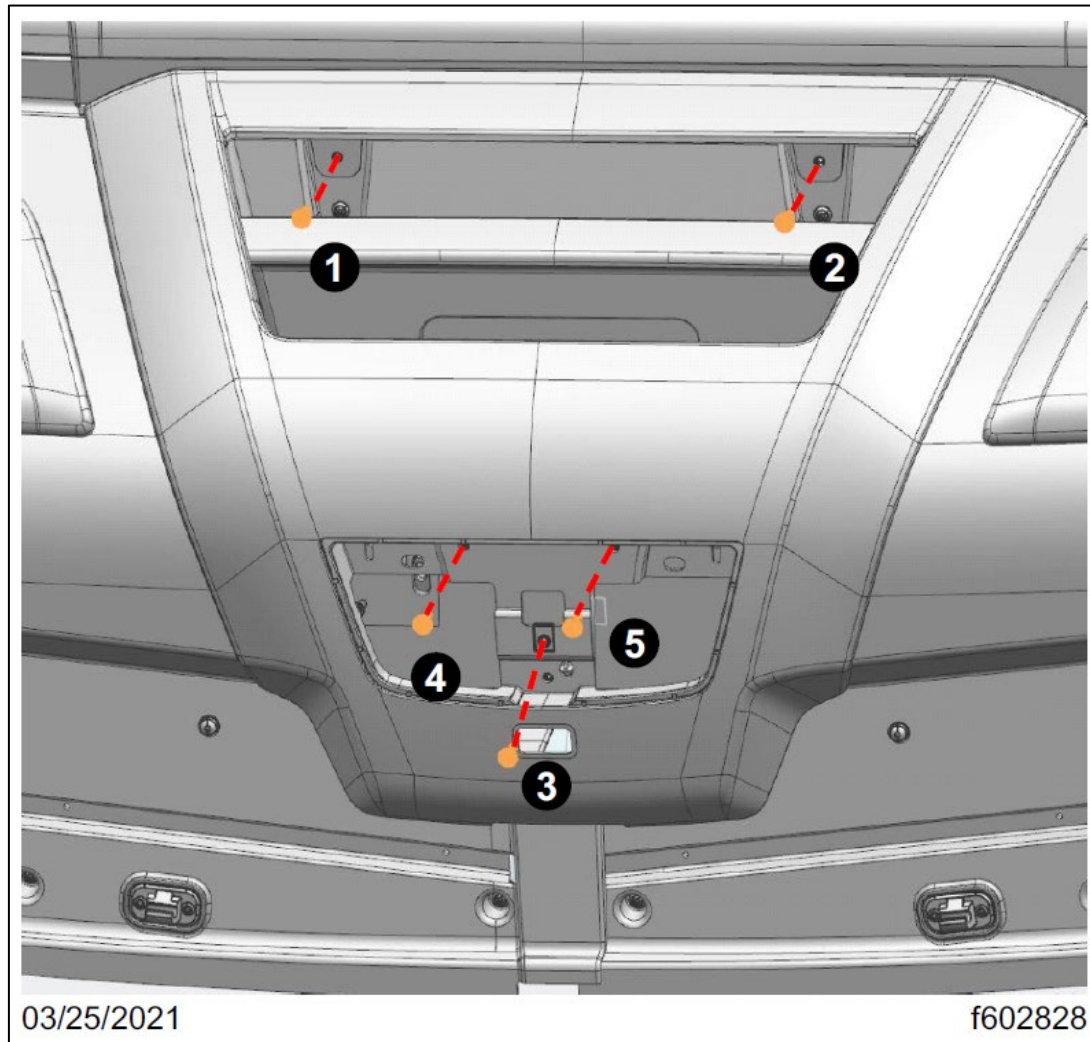

Fig. 69, Center Bezel Fasteners Installation Sequence
- 14.8. Install the five fasteners that attach the center bezel to the center overhead storage bin. Tighten the fasteners 5 to 7 lbf.ft (6 to 9 N.m) as per the sequence shown in Fig. 69.